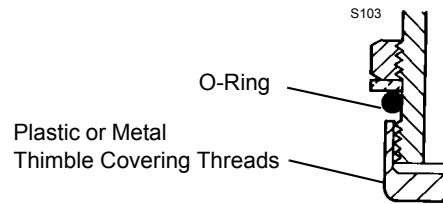

Figure 2-18. O-ring Assembly with Thimble
- Be careful not to cut O-rings when assembling them onto fittings. Use a thimble as shown in Figure 2-18 when assembling O-ring over threads.